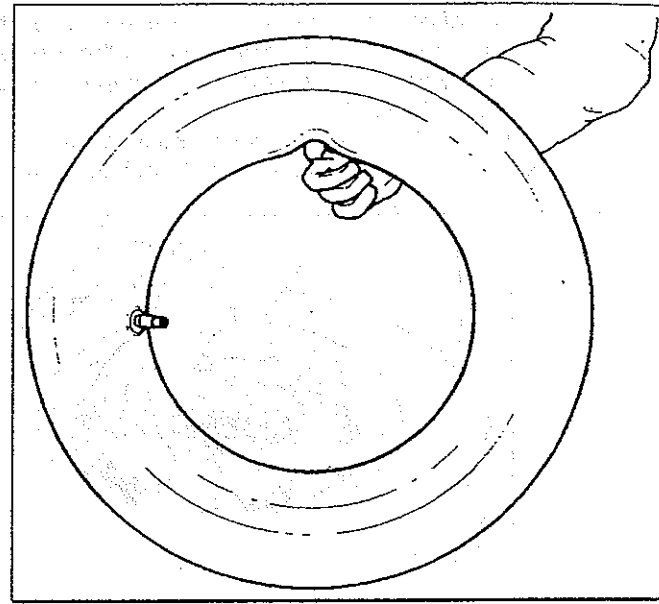

Fig.27
C. Inflate the tube slightly: if held with the index finger it should bend a little (Fig.27).